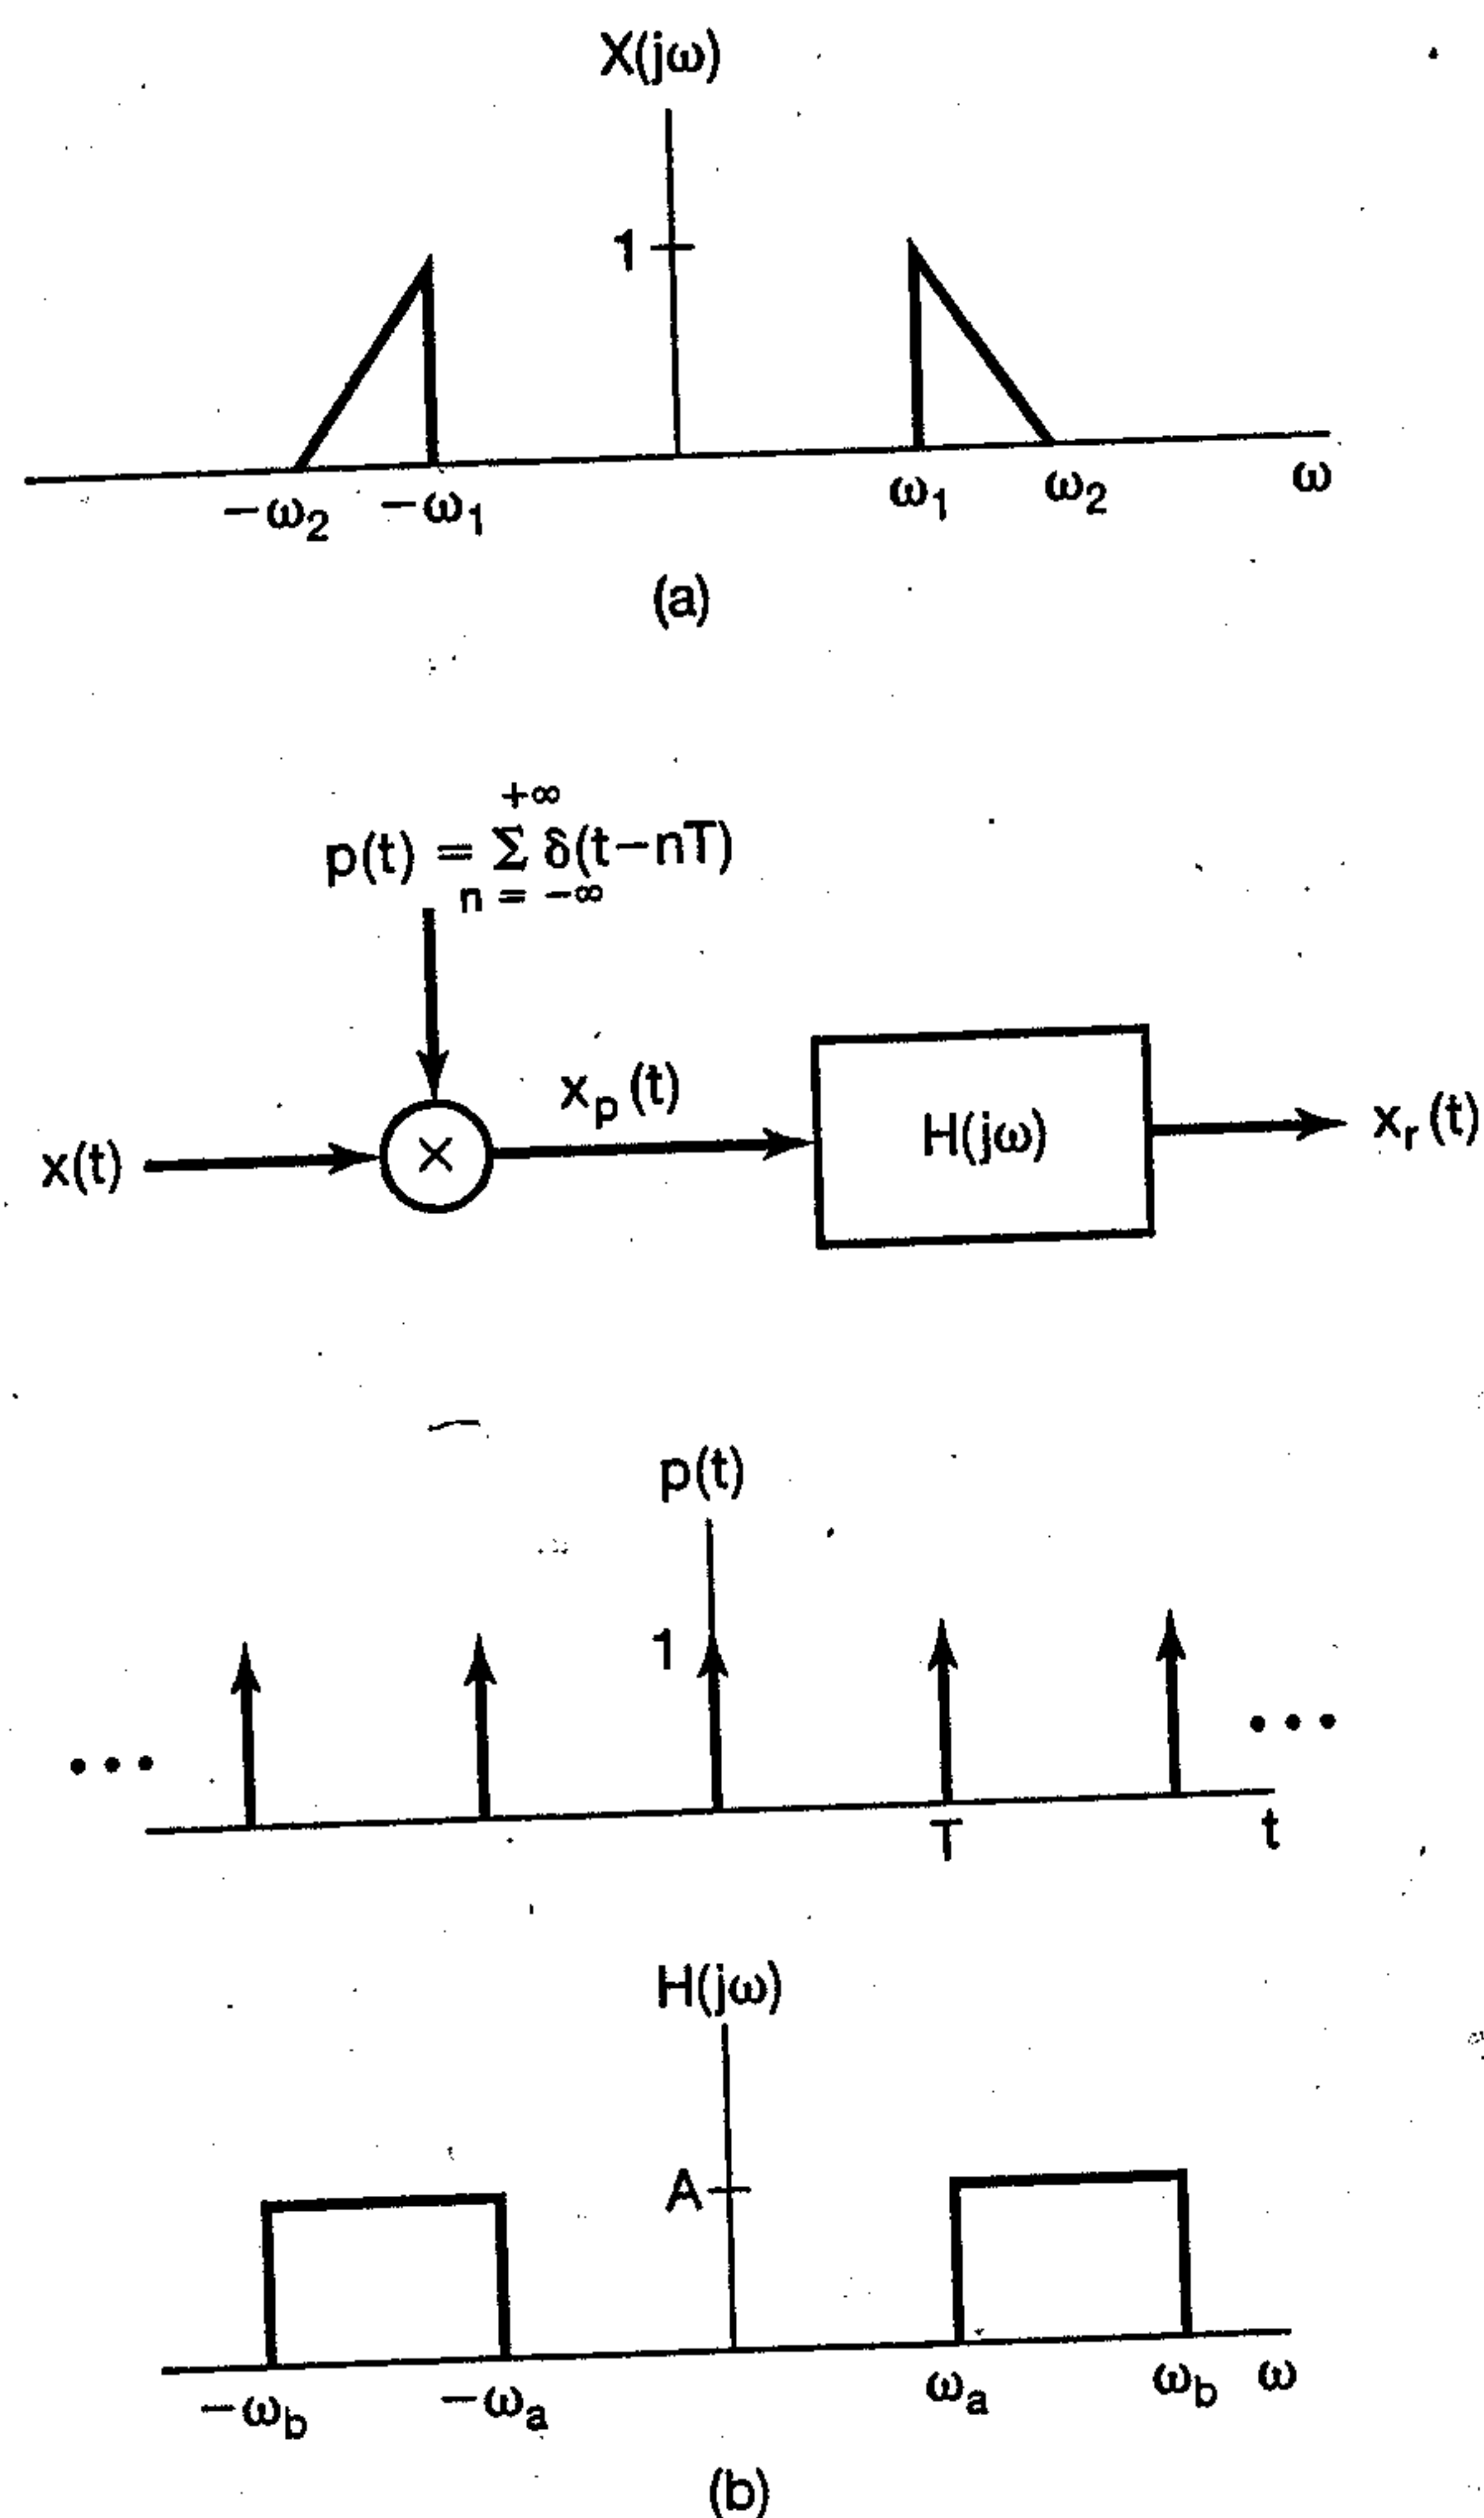

Figure P7.26
7.26. The sampling theorem, as we have derived it, states that a signal  $x(t)$  must be sampled at a rate greater than its bandwidth (or equivalently, a rate greater than twice its highest frequency). This implies that if  $x(t)$  has a spectrum as indicated in Figure P7.26(a) then  $x(t)$  must be sampled at a rate greater than  $2\omega_2$ . However, since the signal has most of its energy concentrated in a narrow band, it would seem reasonable to expect that a sampling rate lower than twice the highest frequency could be used. A signal whose energy is concentrated in a frequency band is often referred to as a *bandpass signal*. There are a variety of techniques for sampling such signals, generally referred to as *bandpass-sampling* techniques.
To examine the possibility of sampling a bandpass signal as a rate less than the total bandwidth, consider the system shown in Figure P7.26(b). Assuming that  $\omega_1 > \omega_2 - \omega_1$ , find the maximum value of  $T$  and the values of the constants  $A$ ,  $\omega_a$ , and  $\omega_b$  such that  $x_r(t) = x(t)$ .